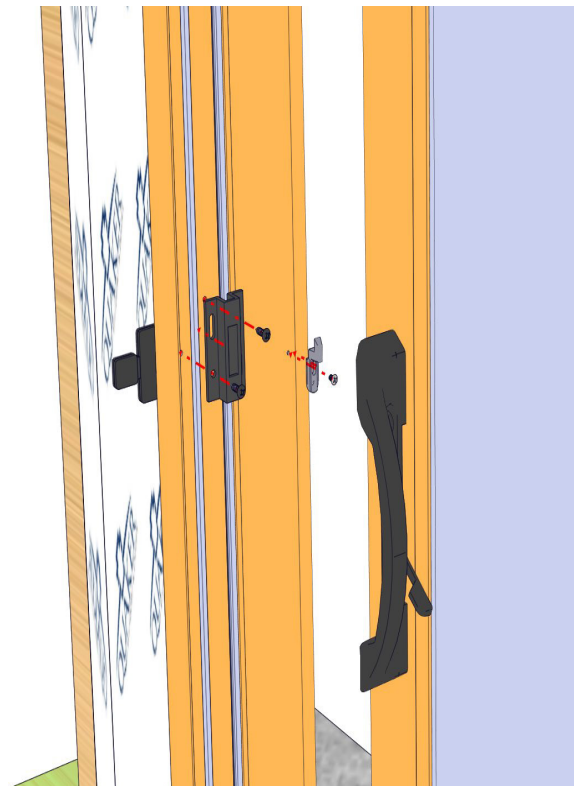

Fig. 30
- Use pre-punched holes in jamb to align with the slotted holes in keepers. (Fig. 30)